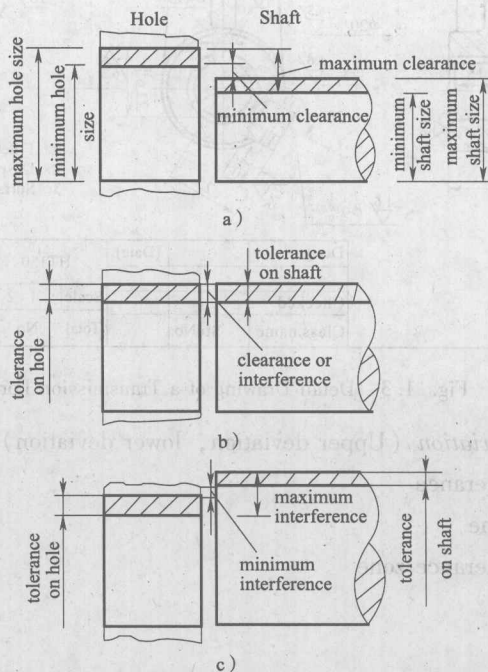

Fig. 1.5 Conditions of Fit Between a Hole and a Shaft
**Fit** The fit between two *mating* parts is the relationship which results from the clearance or interference obtained. There are three types of fits, namely, clearance fit, transition fit and interference fit. These conditions of the fit are shown in Fig. 1.5.